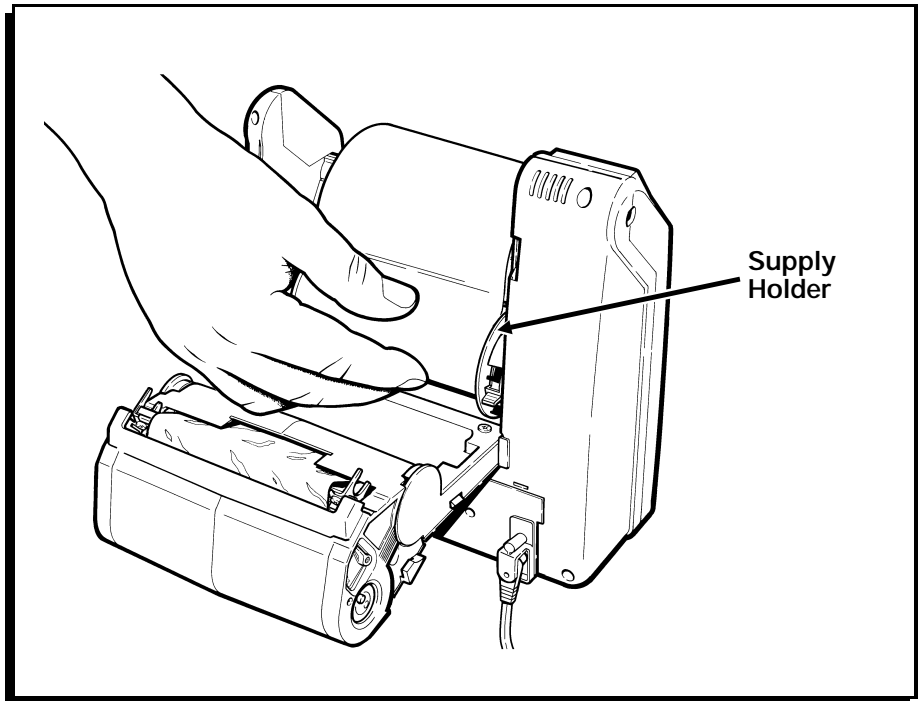

Figure 32
4. Insert the roll of supplies between the supply holders inside the printer and press until the supply roll snaps into place. The supply roll should unwind as shown. (Figure 32.)